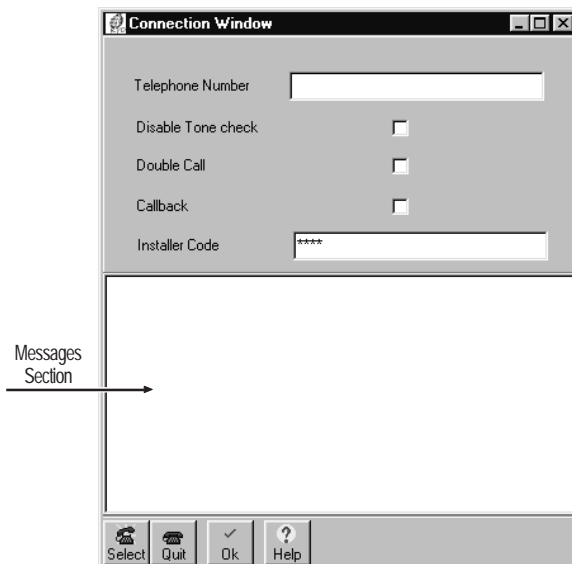

Figure 3.21 - Connection Window
3. Select **Modem** ⇒ **Connection** to open the 'Connection Window' (see Figure 3.21)